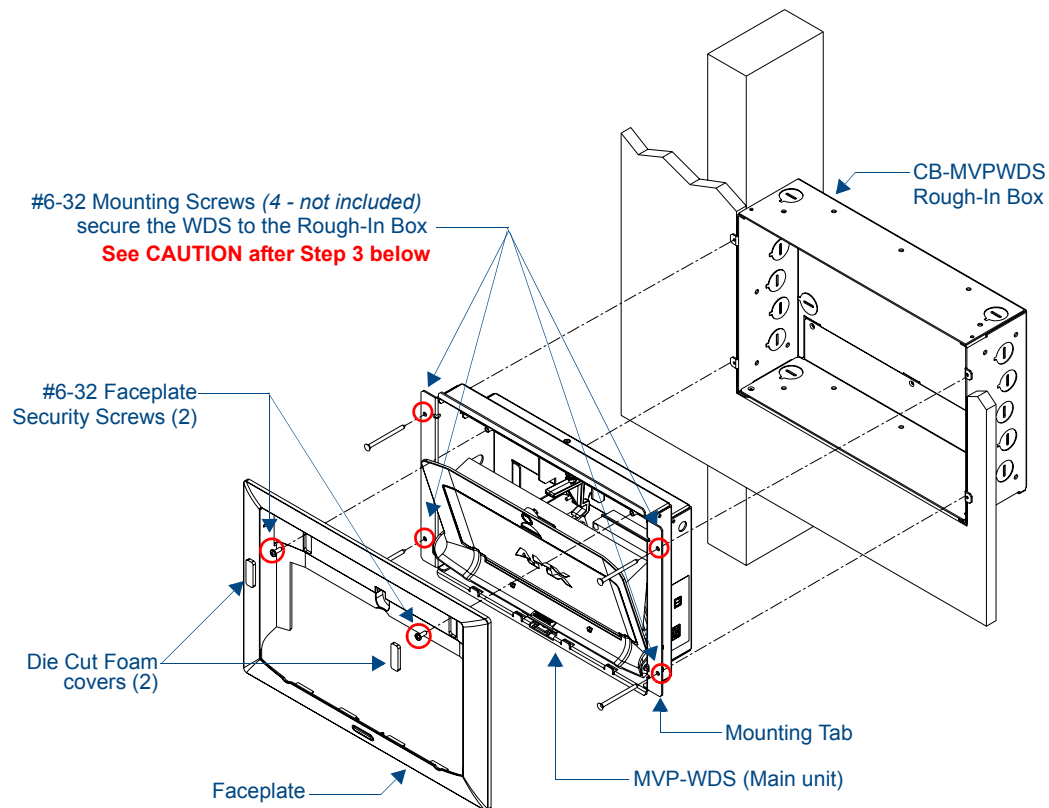

FIG. 9 MVP-WDS installation configuration within a CB-MVPWDS Rough-In Box
2. Insert the WDS into the rough-in box, so that the Mounting Tabs on the WDS lie flush against the rough-in box (FIG. 9).
4. Slide the Faceplate over the angled Support Cradle, toward the Security Release pushbutton's circuit board on the MVP-WDS (FIG. 9).